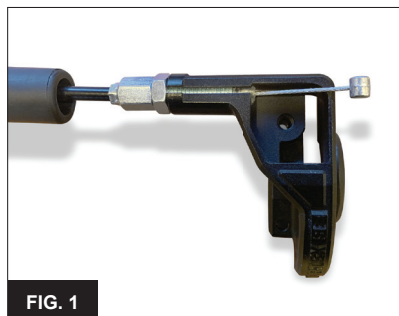
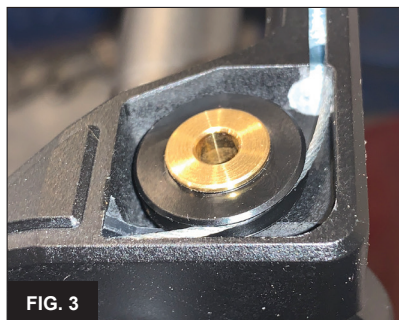

FIG. 1
FIG. 3
3. Remove housing cover screw (B), housing cover (B), pulley and bushing (E and F). Take note of the orientation of the brass bushing (F). **IMPORTANT: The larger diameter shoulder should be on the top during reassembly (Fig. 3).**
4. Remove mounting screws and separate the top and bottom halves of the housing (C and D) and throttle tube (A).
5. Install the cable into the upper throttle housing (C), run the threaded adjuster all the way into the housing until it bottoms out. This will give you the maximum amount of free length on the inner wire and make assembly easier (Fig. 1).
8. Insert the pulley and bushing into the top housing. Make sure the inner wire is seated inside the center groove on the pulley and that the large shoulder on the bushing is facing up. (Fig. 3) Install the top cover and cover screw.
3. Remove housing cover screw (B), housing cover (B), pulley and bushing (E and F). Take note of the orientation of the brass bushing (F). **IMPORTANT: The smaller diameter of the bushing should be on the top with the large diameter shoulder on the bottom during reassembly (Fig. 3).**
5. Install the cable into the upper throttle housing (C), run the threaded adjuster all the way into the housing until it bottoms out. This will give you the maximum amount of free length on the inner wire and make assembly easier (Fig.1).
8. **IMPORTANT: The brass bushing on the pulley must be installed with the shoulder facing DOWN (Fig. 3) Insert the pulley and bushing into the top housing. Make sure the inner wire is seated inside the center groove on the pulley and the large shoulder on the bushing is facing DOWN. Install the top cover and cover screw.**